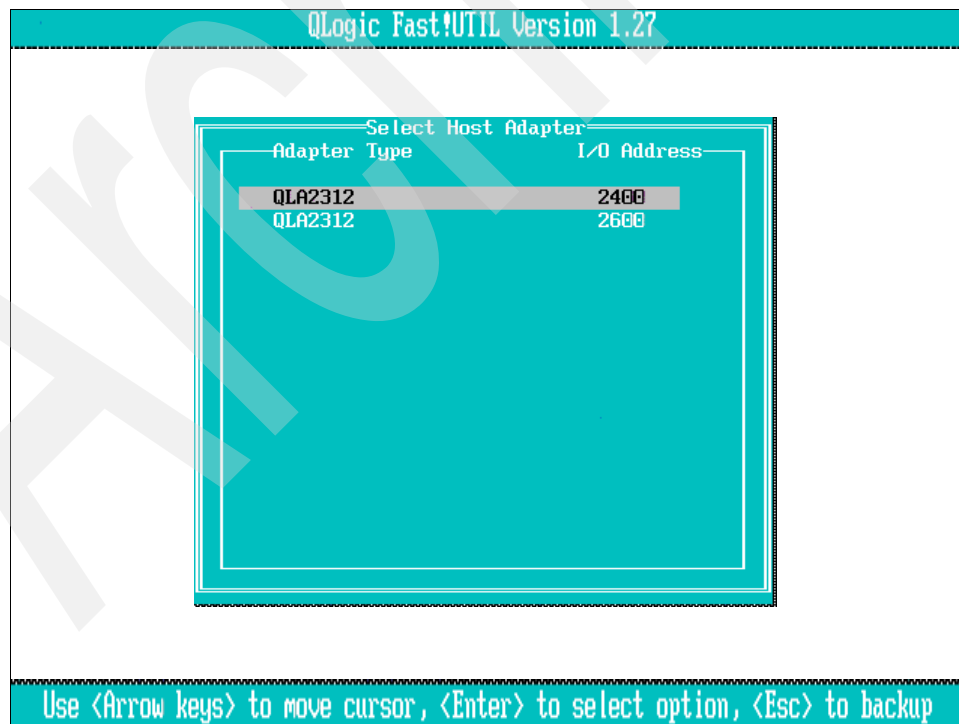

Figure 5-9 Select FC adapter
7. Select the first Fibre Channel adapter port (port 1 @ 2400 I/O address is internally connected to the top Fibre Channel Switch in slot 3 of the BladeCenter chassis), as shown in Figure 5-9.